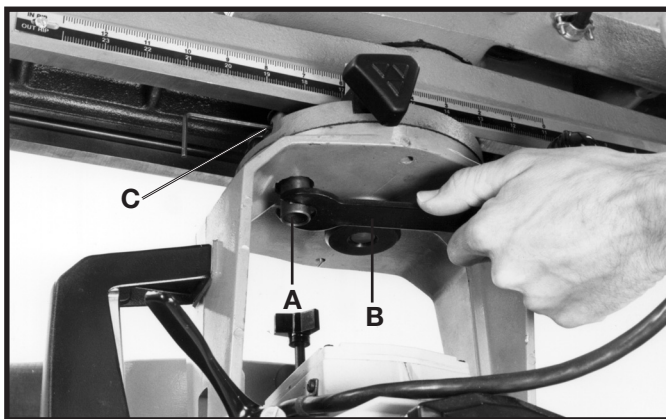

Fig. 39
3. To adjust, place special wrench socket (A) Fig. 39, supplied with the saw, over hexagon nut, located underneath the carriage. Place one of the wrenches (B) supplied, on flats on special wrench socket (A) and loosen hexagon nut.
4. Loosen set screw (C) Fig. 39, with allen wrench to release locking action on eccentric shaft.
6. Lock set screw (C) Fig. 39, and tighten hex jam nut with special socket wrench (A).